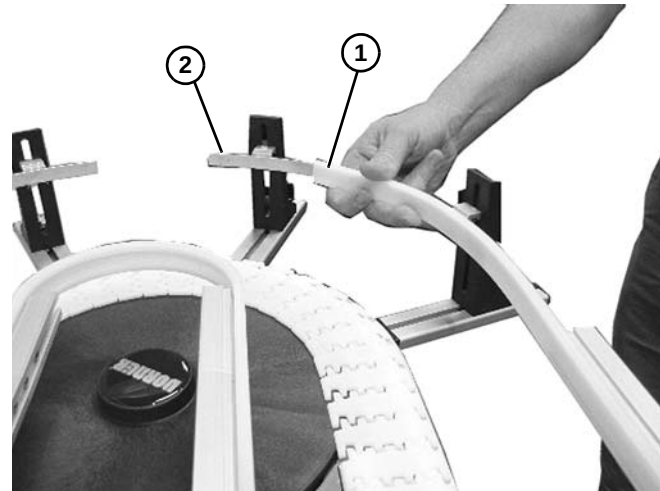

Figure 47
9. On outside of curve, install guiding (**Figure 47, item 1**) on the guide supports (**Figure 47, item 2**).